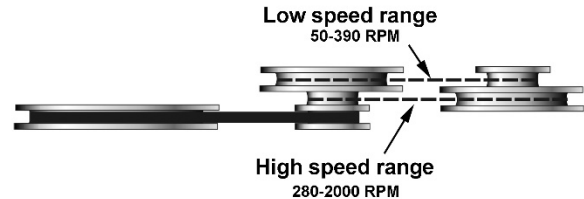
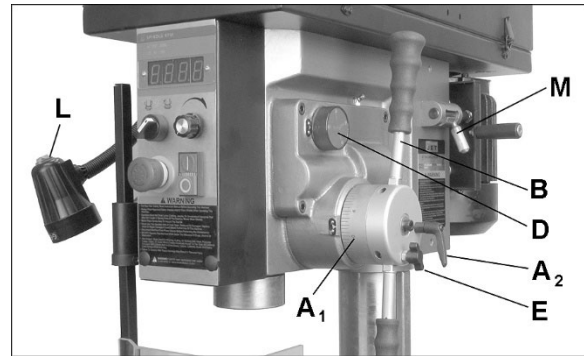

Figure 7-2 (step pulley model JDPE-20EVS-PDF)
Figure 8-1: head right side (JDPE-20EVSC-PDF)
2. Loosen lock handle (A2, Figure 8-1) on depth scale.
4. Keep feed handle in lowered position and rotate depth scale (A1, Figure 8-1) counterclockwise until it comes to a stop.
5. Tighten lock handle (A2, Figure 8-1). This will keep quill in lowered position.
8. Loosen lock handle (A2, Figure 8-1) to release quill.
2. Release latch (M, Figure 8-1) to de-tension belt. Work motor belt out of pulley grooves and into other set of grooves. Figure 7-2 shows speed range belt positions. Make sure belts are properly seated in the grooves of each pulley.
3. Re-tension belts by securing latch (M).
Refer to Figures 8-1 and 8-2.
1. Tighten powerfeed locking knob (E, Figure 8-1) to prevent powerfeed activation.
2. Use feed handles (B, Figure 8-1) to bring tool down into workpiece.
5. Use feed handle (B, Figure 8-1) to lower bit to desired depth based on reference mark.
See Figures 8-1 and 8-2.
1. Loosen lock handle (A2, Figure 8-1).
2. Rotate feed handle (B) to lower spindle to point at which it is to be locked, and hold feed handle stationary in this position.
6. If drill press will not be used for an extended period, release latch (M, Figure 8-1) to reduce stress on belts.